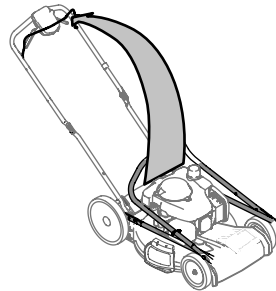

Figure 7
3. While stabilizing mower so it doesn't move, gently lift and pivot the upper handle into the operating position (Figure 7). Make certain the lower handle is seated securely into the handle brackets. Do not crimp blade or drive control cables while lifting the handle up